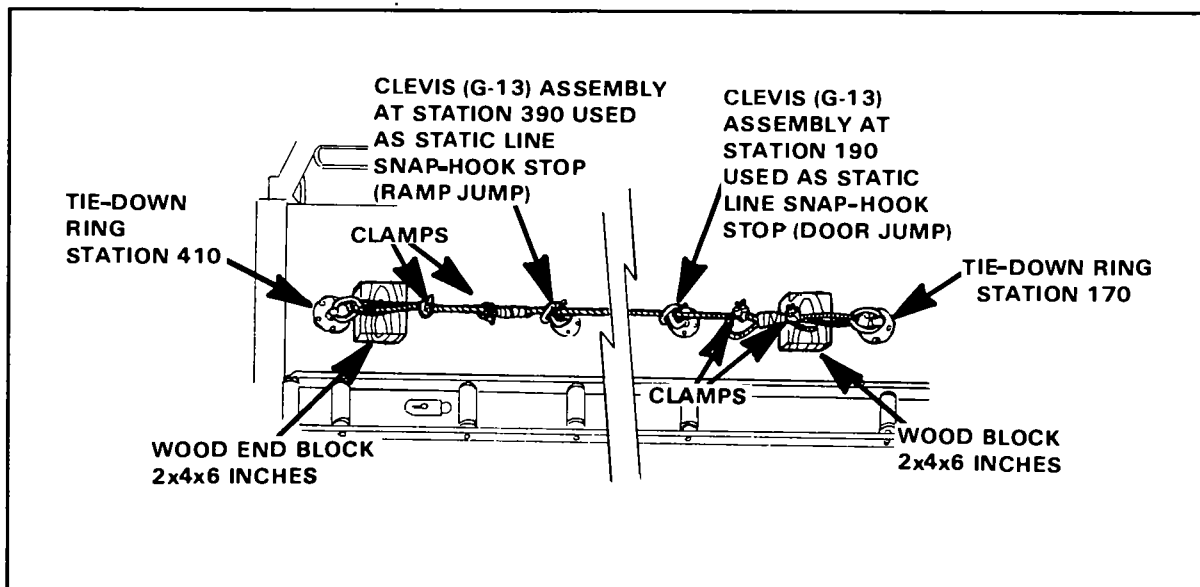
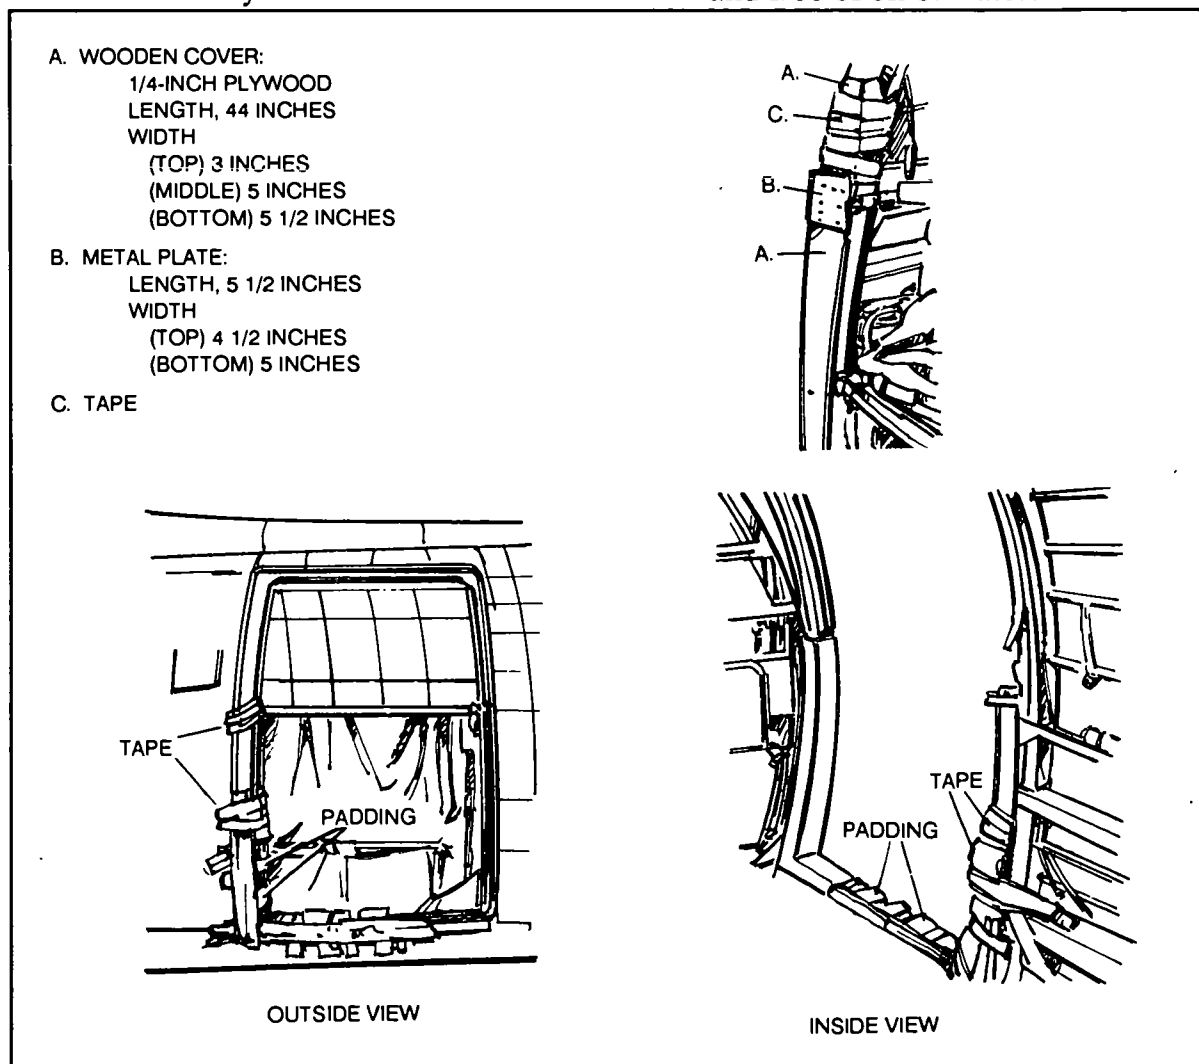

Figure 13-6. Anchor line cable installation.
Figure 13-7. Door frame preparation.
(1) The anchor line cable is installed on the floor of the aircraft on the starboard side using the tie-down fittings at station No. 170 as the forward attachment point, and station No. 410 as the rear attachment point (Figure 13-6).
(2) One 1/4-inch or 3/8-inch steel cable, 260 inches in length, is installed with four clamps, lock washers, and bolts.
(3) Two 2- by 4- by 6-inch wooden blocks are placed between the anchor line cable and floor, and a clevis assembly (G-13, for use as a static line snap hook stop) is attached to the tie-down ring at station No. 190 (door jump).
(4) Excess slack is removed from the anchor line cable.
(5) The personnel door is removed, and a plywood cover is installed over the aft side of the door frame and secured with a metal plate. The bottom and aft edges of the door frame are padded and taped (Figure 13-7).
(6) When jumping from the ramp, the anchor line cable is installed as described previously except that it is on the portside and the G-13 clevis (for the static line snap hook stop) is on the tie-down ring at station No. 390.
(7) A 5-foot static line extension (FSN 1670-368-4225) is required.